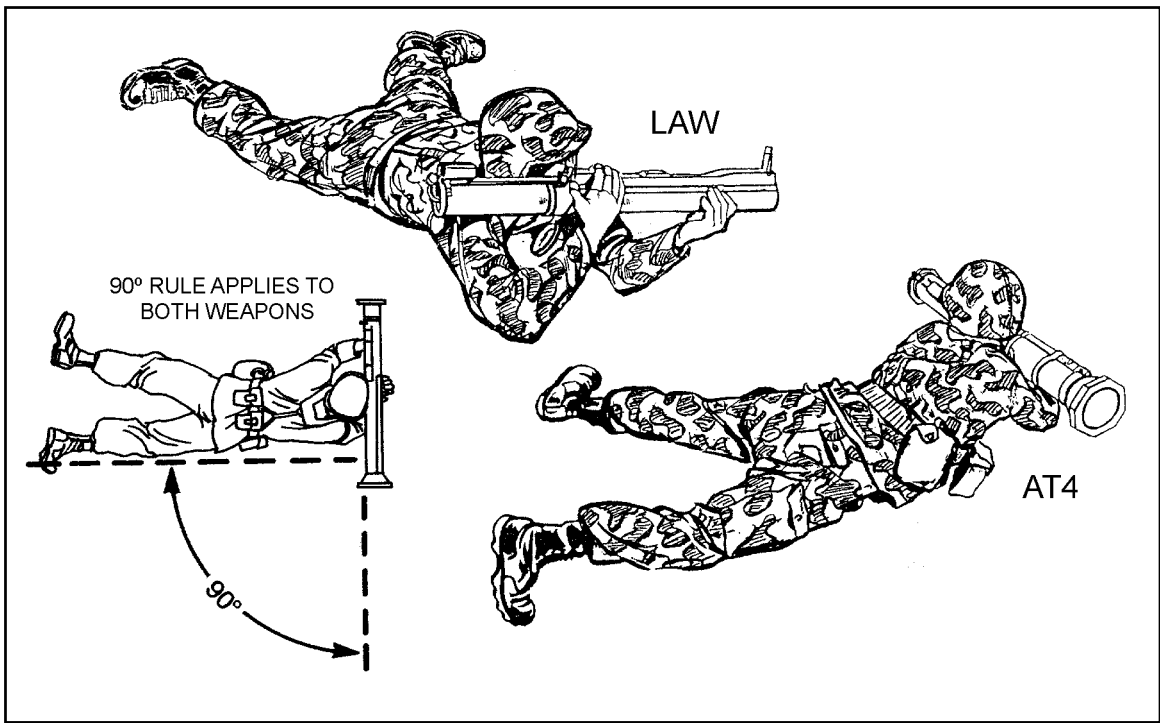

Figure 5-8. Prone positions.
- c. Unlike other firing positions, this one prevents you from placing the launcher on your right shoulder. Instead, you must hold the launcher in place against your upper right arm. For stability, apply extra pressure on the firing mechanism with your right hand. The prone position is the *least* stable of all firing positions. You must practice it often to become confident using it. Figure 5-8 shows the prone positions for the LAW and AT4.